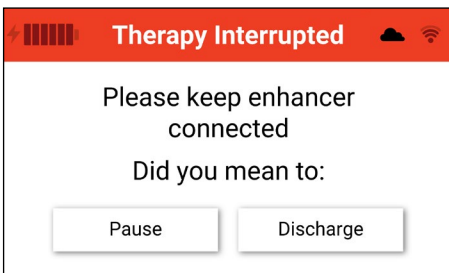

Figure 23. Keep Enhancer connected prompt screen
1. If the enhancer is disconnected while running, a prompt will appear with a five (5) second auditory tone. Reconnect the enhancer into the front of the controller or make a selection to dismiss the prompt. Do not use the button to insert the connector. Push until there is a click. (Fig. 23)